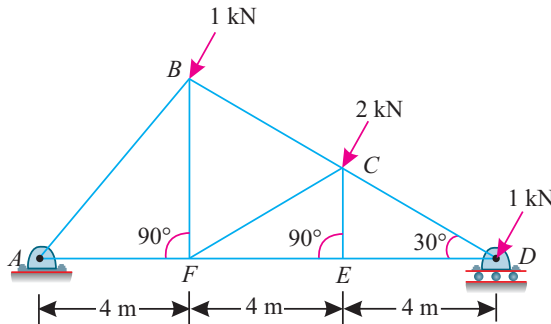

Fig. 14.57.
3. Fig. 14.57 shows a truss pin-joint at one end, and freely supported at the other. It carries loads as shown in the figure. Determine forces in all the members of the truss and state their nature.